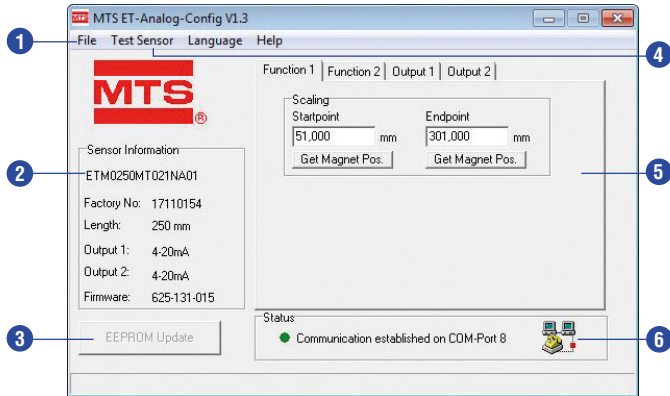

Fig. 29: MTS ET-Analog-Config V1.3, Function 1
After starting the program, the user interface of the connected sensor with its adjustable parameters will open (Fig. 29).
- 1 In the **File** menu the sensor configuration can be saved on hard disk, printed out or loaded into the sensor⁵. Moreover, this menu permits returning to the factory setting (Fig. 29).
- 2 **Sensor Information** contains the invariable sensor parameters, which were read in automatically when connecting the sensor. (Fig. 29).
- 3 Any changes which were made are shown with dark background. By clicking on **EEPROM Update** the altered parameters are stored in the sensor permanently. Subsequently, the stored values are displayed again with a white background (Fig. 29).
- 5 The control tabs of the main display section permit allocation of functions to the sensor outputs. The measuring range of the functions will be determined in **Scaling** (Fig. 29).
- 6 **Status** indicates that the sensor is connected successfully (Fig. 29).